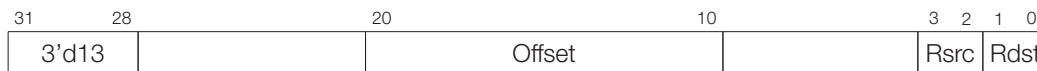

Figure 145: Instruction Type – LD
**Operand**    **Description** - see Figure 145